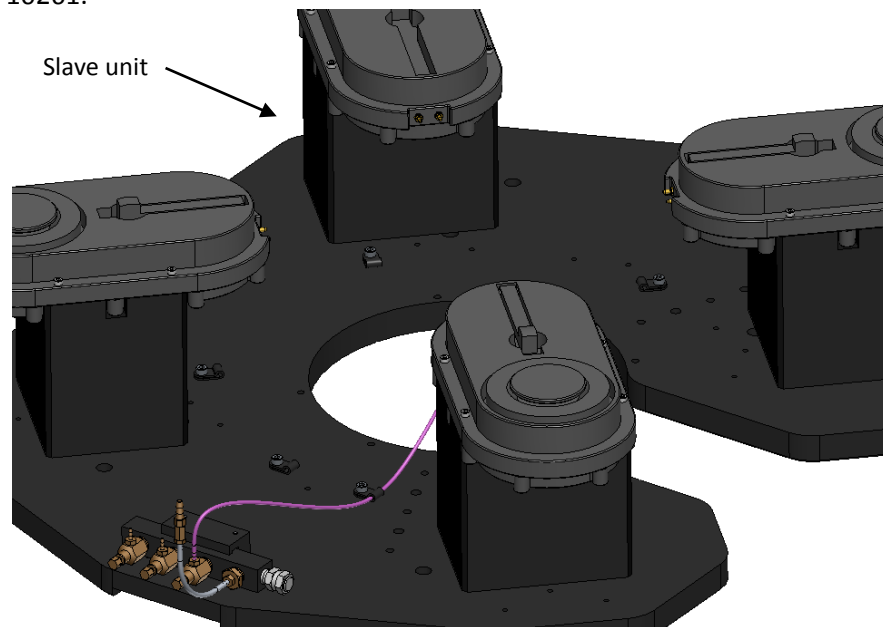

Figure 7
- Refer to **Figure 7**. Route the flexible tubing from the remaining pod and secure using the remaining P11374 and P10261.